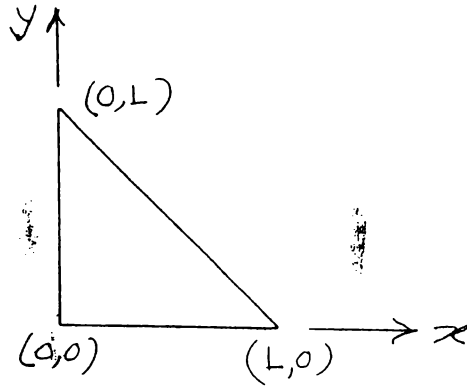
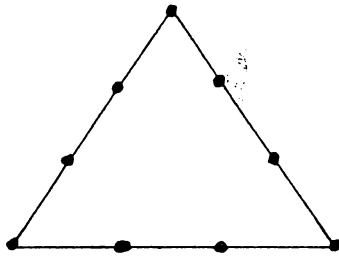

Fig. 2
Fig. 3
5. (a) What are the two basic types of idealization of 2D problems? Write down the elasticity matrix for each of the two cases. (6)
- (b) For the CST element shown in Fig. 2, determine the stiffness matrix for plane stress. (17 $\frac{1}{3}$)
6. (a) Why do we need an integration scheme in FEM? What is the advantage of Gaussian quadrature? (5)
7. (a) Derive the shape functions of the 9-noded triangular element shown in Fig. 3. (15)